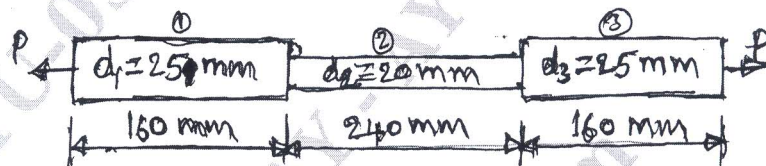

Fig.Q1(c)
- c. The bar shown in Fig.Q1(c) is tested in universal testing machine. It is observed that at a load of 40 kN the total extension of the bar is 0.285 mm. Determine the Young's modulus of the material.